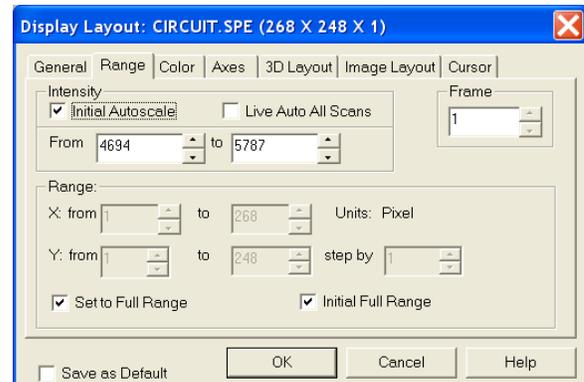

Figure 67. Display Layout/Range tab
2. Click on the **Range** tab (Figure 67). **Initial Autoscale** and **Set to Full Range** should be selected. The **Frame** number should be "1."